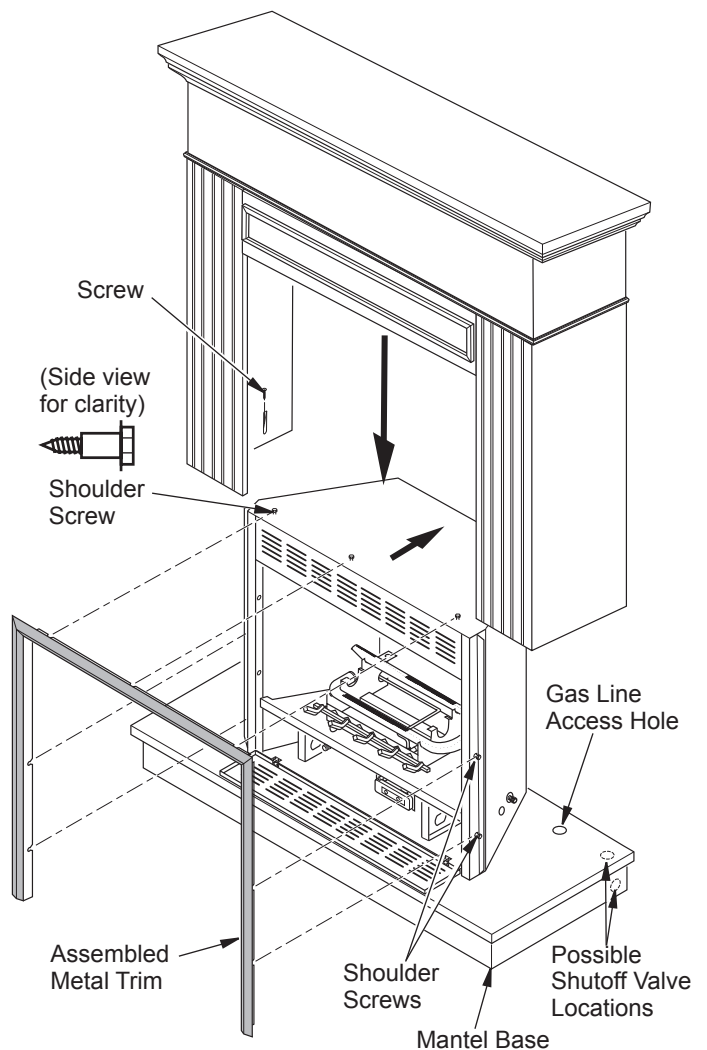

Figure 12 - Installing Fireplace with Flange
3. With assistance, carefully place mantel over fireplace (see Figure 12). Fireplace nailing flanges will be to inside of mantel. Align mantel with markings made previously. Make sure back of mantel is flush with back of mantel base. Adjust fireplace as necessary.